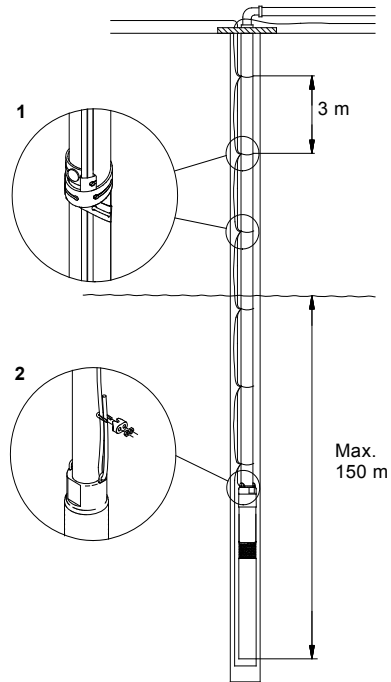

Fig. 11
Figure 11 shows a pump installation with indication of:
Cable clips must be fitted every 3 metres. See fig. 11.
Maximum installation depth below the static water level: 150 metres. See fig. 11.
It is recommended to secure the pump by an unloaded straining wire. See fig. 11, pos. 2. Slacken the straining wire so that it becomes unloaded and lock it to the borehole seal by means of wire locks.